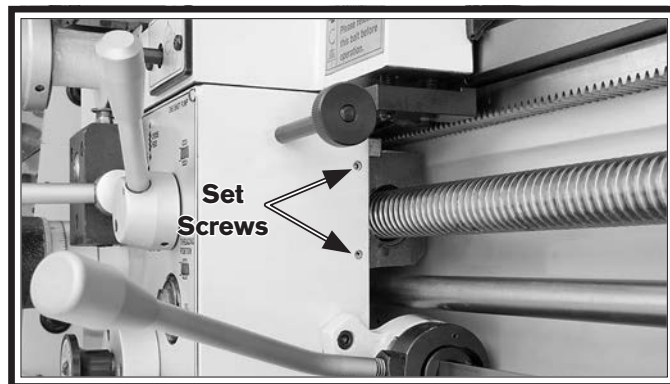

Figure 129. Half nut gib adjustment.
2. Turn the two set screws (see **Figure 129**) clockwise to tighten the half nut and counterclockwise to loosen it.